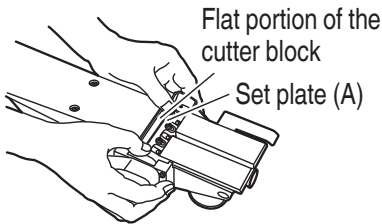

Fig. 13
- (5) As shown in **Fig. 13, 14**, insert a turned portion of set plate (A) attached to set plate (B) into a groove on the flat portion of the cutter block.